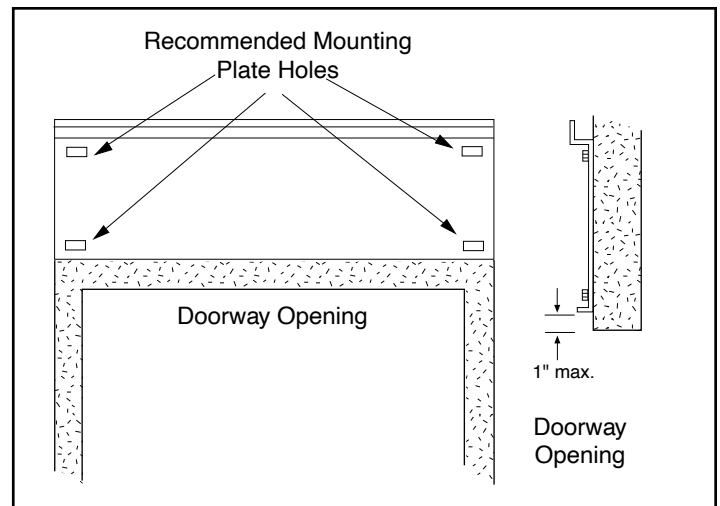

FIGURE 6 - Positioning of Mounting Plate
- Position and center the mounting plate over the door opening. The mounting plate must be positioned with the “Z” lip on top. Drill mounting holes on the mounting plate. **See Figure 6.**